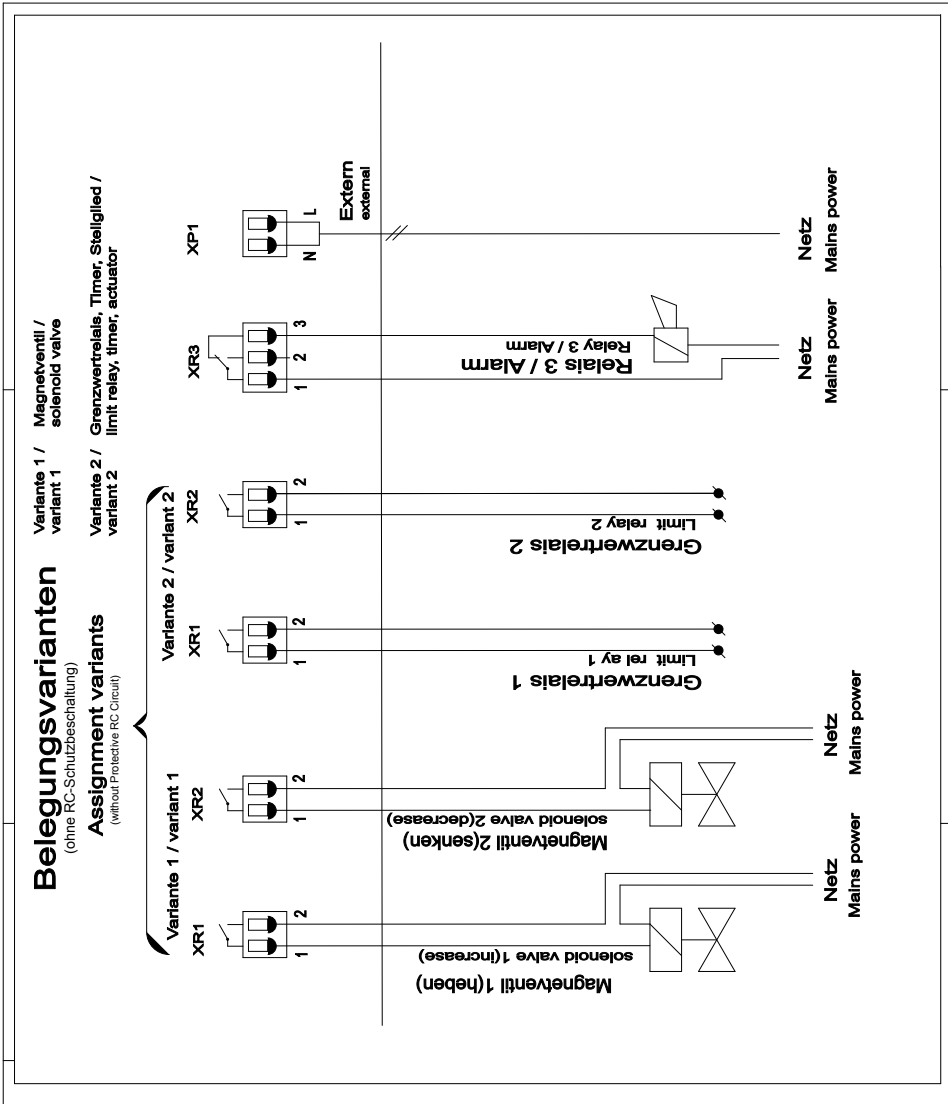

Fig. 11: Terminal diagram with assignment options 1
- ➔ Fit screw connection (1), pressure ring (2) and seal (3) onto cable
- ➔ Connect up the wires to the terminals according to the electrical wiring diagram Fig. 11